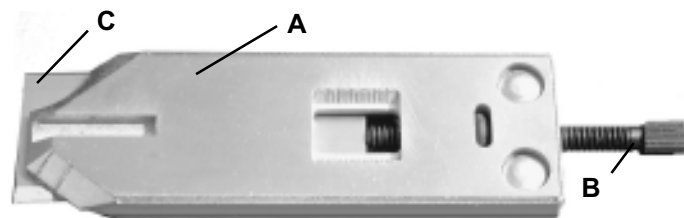
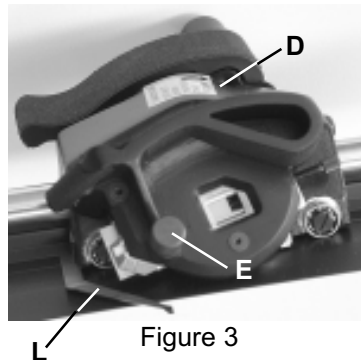

Figure 1
Figure 3
1. Insert a **Blade (C)** in the bevel cutting **Magazine (A)** as shown in Figure 1. The **Blade Extension Screw (B)** should be adjusted so the **Blade (C)** penetrates about 1/3rd the thickness of a slip sheet under the mat being cut. The blade should always rest against the **Blade Extension Screw (B)**, and the **Magazine (A)** must be fully inserted in the **Cutting Head (D)**. Tighten its **Locking Knob (E)** firmly. See Figure 3.
3. The **Sight Gage (L)** shown in Figure 3 is used to control the start of cut and end of cut when using pencil lines drawn on the back of the mat. It is held in place on the **Cutting Head** with a magnet and can be removed and set aside when not being used. The use of this feature is explained on the following page.